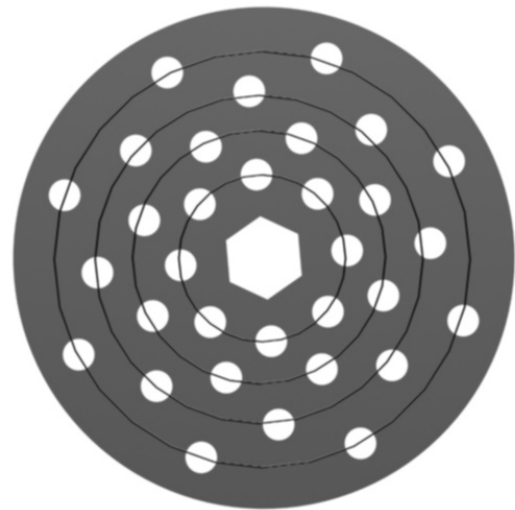

Fig. 14
Concentric circles share the same centers. The GEARS-IDS™ 3" wheel pictured in figure 14 has sets of 8 holes equally arrayed around four concentric circles.
*Approximate layout circles are pictured in the figure 14 illustration.*
Create a sketch of the wheel shown in fig. 14. Using dial calipers and a calculator, determine the diameters of the 4 concentric circles on which the holes are arrayed.